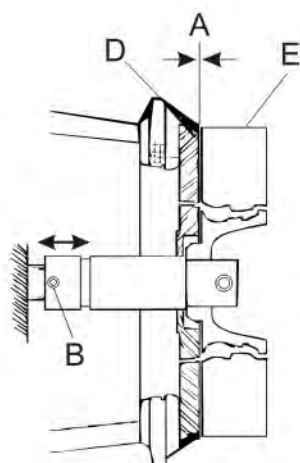

Figure 19 - Setting Backplate/Impeller Clearance
- 4.6 Slide the impeller on the shaft. Hold the impeller tight against the shoulder in the shaft and rotate the shaft one-quarter turn until the impeller pin engages with the impeller. (See Figure 19).
- 4.6.6 Slide the deflector (large diameter end first) onto the shaft until it seats in the shaft groove. (See Figure 19 item A).